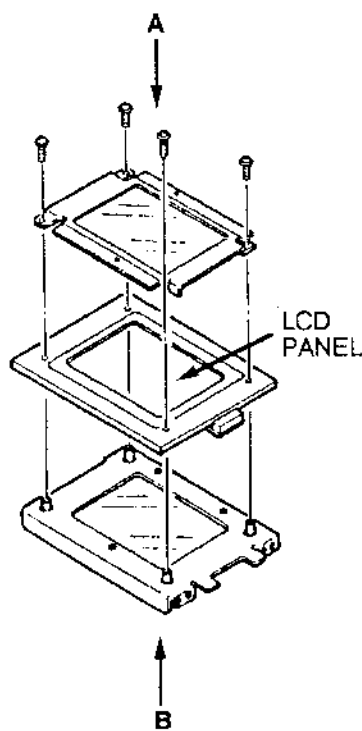

Fig. 1 GREEN PANEL
2. Disassemble the LCD panel assembly by removing the 4 screws. (See Fig. 1 and 2.)
2. Using a light source, such as a fluorescent lamp, illuminate the polarizing glass from the "A" direction (the side which is not adjusted). See Fig. 1 and 2.